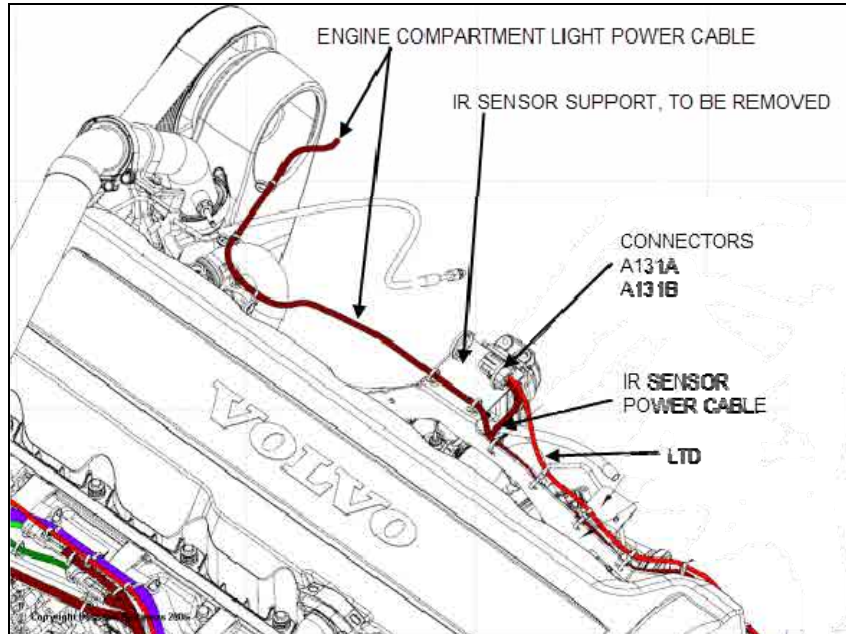

FIGURE 8: IDENTIFICATION OF COMPONENTS AND HARNESSSES
- 9) Locate the IR sensor and support above the turbo (figure 8).